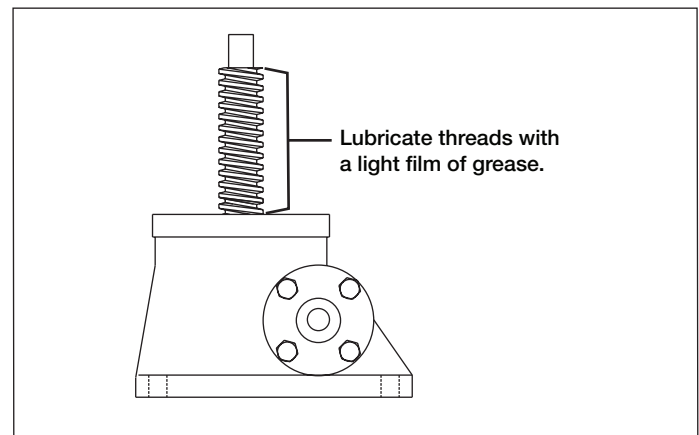

Figure 7, Load Screw Thread Lubrication (Typical - Side View)
3. Using a clean rag or paintbrush, apply a light film of grease directly to the load screw threads. See figure 7.